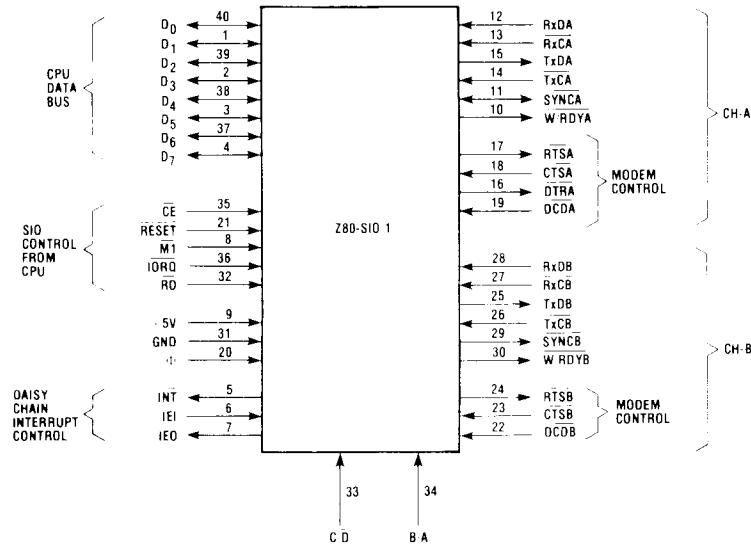

Figure 2. Z80-SIO/1 Pin Configuration
- Z80-SIO/1 sacrifices $\overline{\text{DTR}}\text{B}$ and keeps $\overline{\text{TxC}}\text{B}$, $\overline{\text{Rx}}\text{C}\text{B}$ and $\overline{\text{SYNC}}\text{B}$ (Fig. 2).